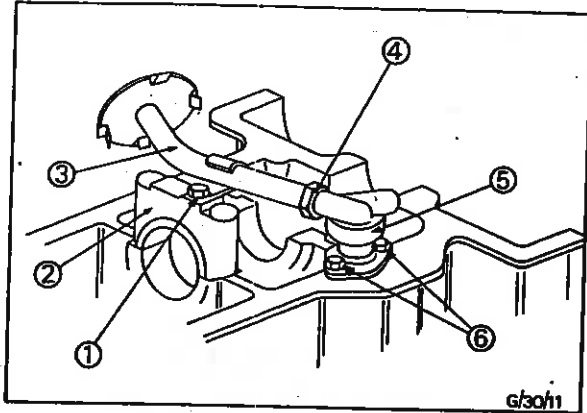

Fig. 64 - Oil Pump Removal/Replacement - 2722, 2723, 2725 and 2726T Engines Not Fitted with High Inclination Oil Pans
58. Locate the pump assembly into the cylinder block and tighten the retaining bolts to the specified torque - see Fig. 64.